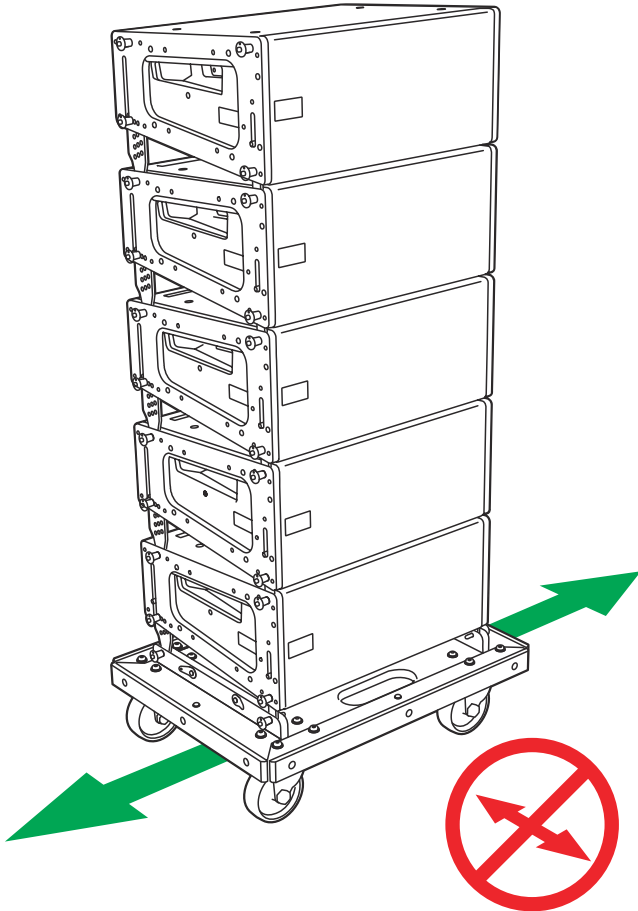

Figure 41: Avoid Moving Stacks in Front-to-Back Direction
- Avoid moving stacks in the front-to-back direction (Figure 41) of the LINAs (the long side); always move stacks sideways to avoid tipping.